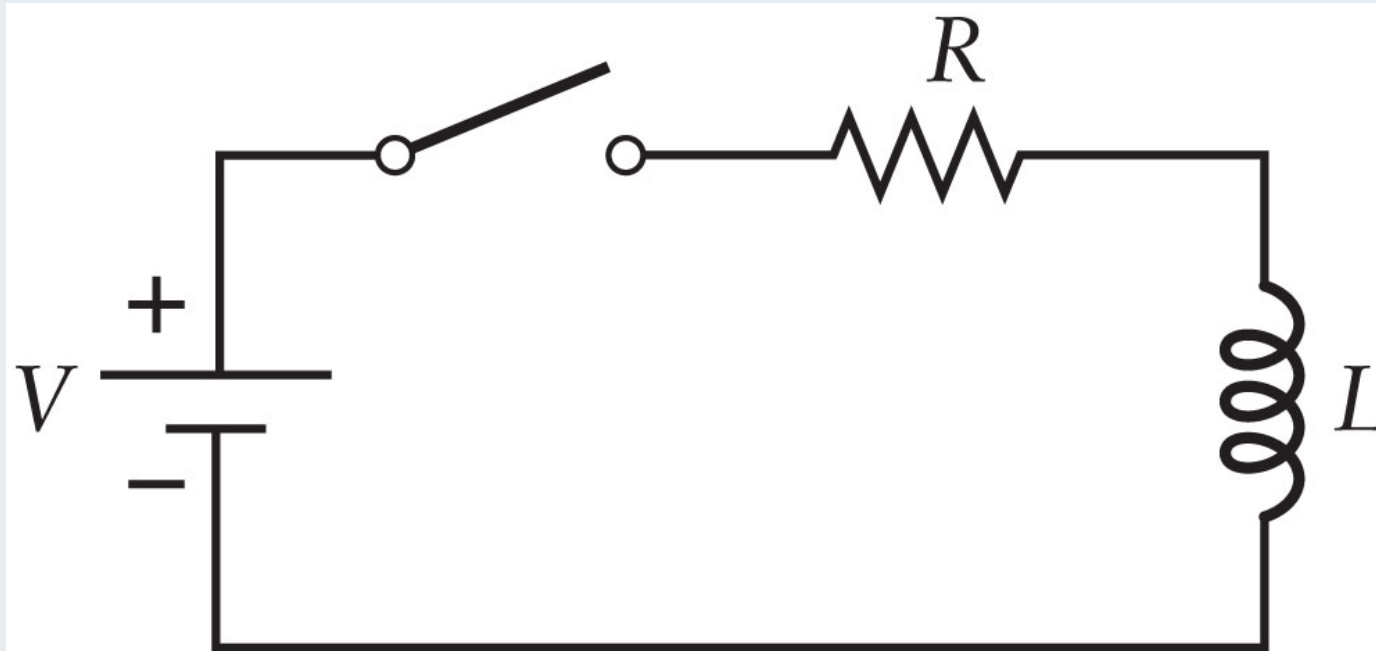

Figure 3. RL circuit representation of Transmission line.
- Consider the series R–L circuit as shown in Fig.3.
<https://www.researchgate.net/publication/321330378/figure/fig3/AS:628024638701568@1526744150027/Fig-1-Short-circuit-current-transients-waveform-1-Symmetrical-and-asymmetrical.png>